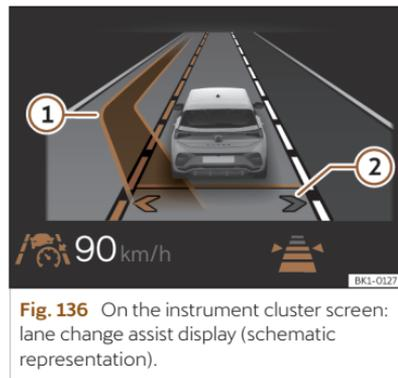

Fig. 136 On the instrument cluster screen: lane change assist display (schematic representation).
Lane change assist is activated. The arrows of your own lane on the instrument cluster display are grey >>> **Fig. 136 ②**
If the system detects no objects in the detection field of the sensor system and an assisted lane change to an adjacent lane is possible, the corresponding lane is shown in the instrument cluster display next to the driver's own lane. The arrow on the corresponding side of the lane is displayed in white >>> **Fig. 136 ②**.